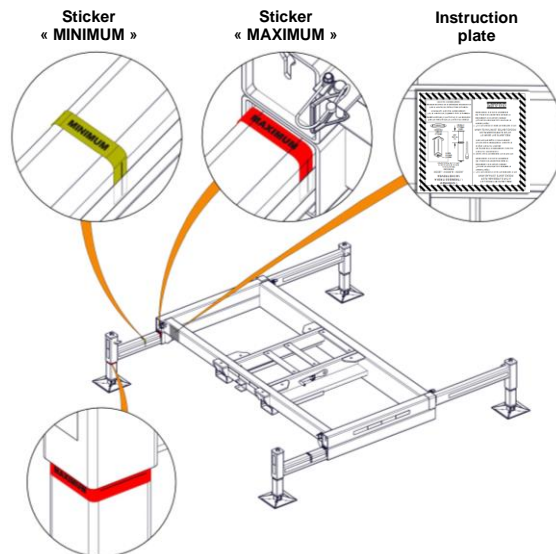

Figure 136 - Universal freestanding base stickers
*The specified widths must take into account the limits imposed by the MINIMUM and MAXIMUM stickers mentioned in the notes below. Note: The permissible slope of the chassis is 0,5° MAXIMUM . Note: The « MINIMUM » stickers (see Figure 136) indicate the maximum opening of the outriggers. Note: The « MAXIMUM » stickers (see Figure 136) indicate the maximum opening of the outriggers.